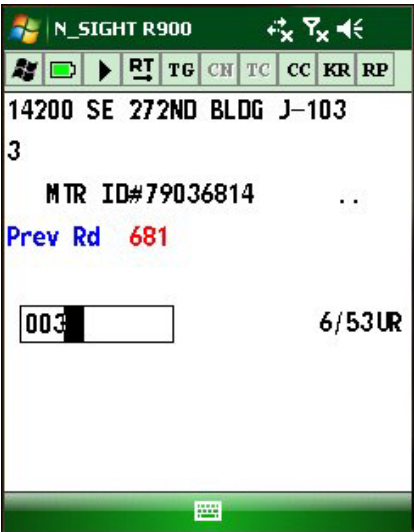

Figure 6.30 Reading Outside High/Low Range
- 1 On the reading entry screen, enter the reading that falls outside the high/low range. See Figure 6.30.